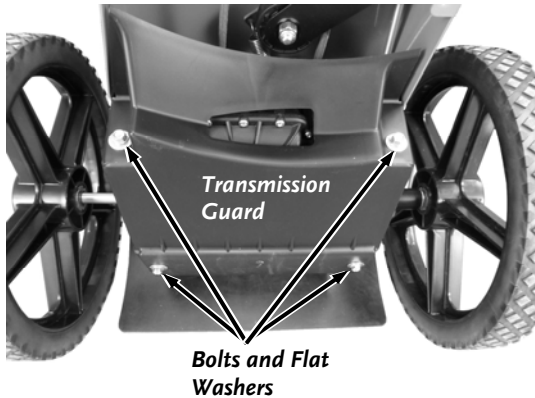

Figure 29
4. Remove the four Transmission Cover Bolts and Flat Washers with a 3/8" Wrench (**Figure 29**). Remove the Transmission Cover.
16. Install the Transmission Cover and secure with the four Transmission Cover Bolts and Flat Washers using a 3/8" Wrench (**Figure 29**).